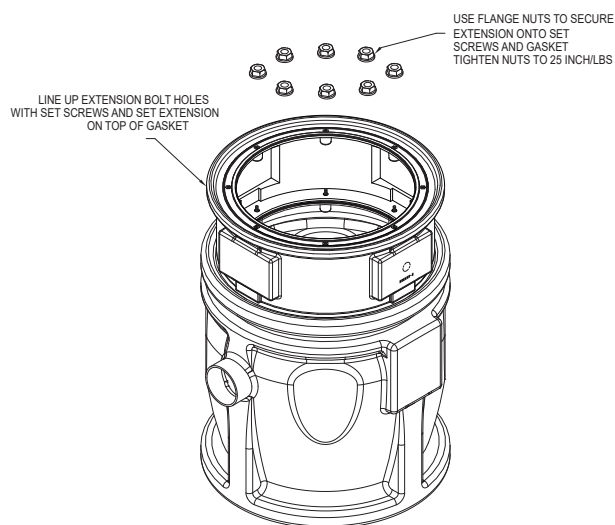

FIGURE 4
6. Line up extension bolt holes with set screws and set extension on top of gasket. Use flange nuts to secure extension onto set screws and gasket. Tighten flange nuts to 25 in/lbs. (Figure 4)